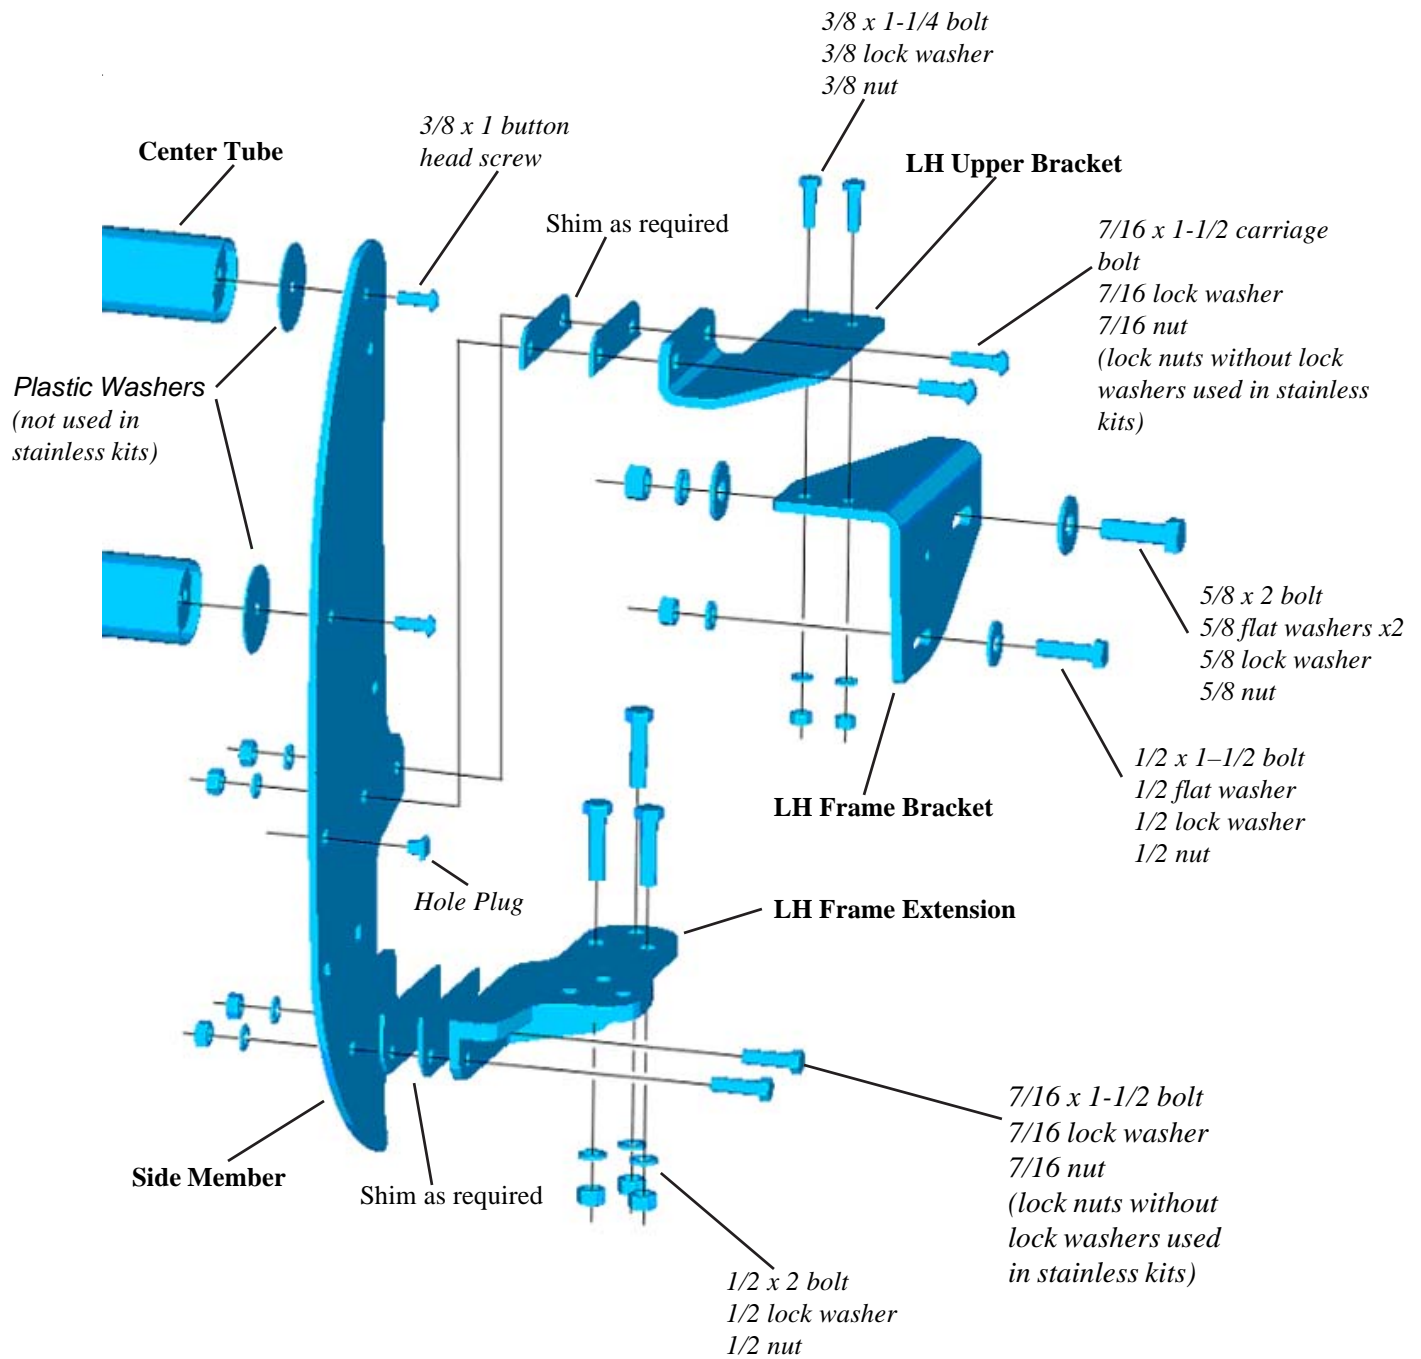
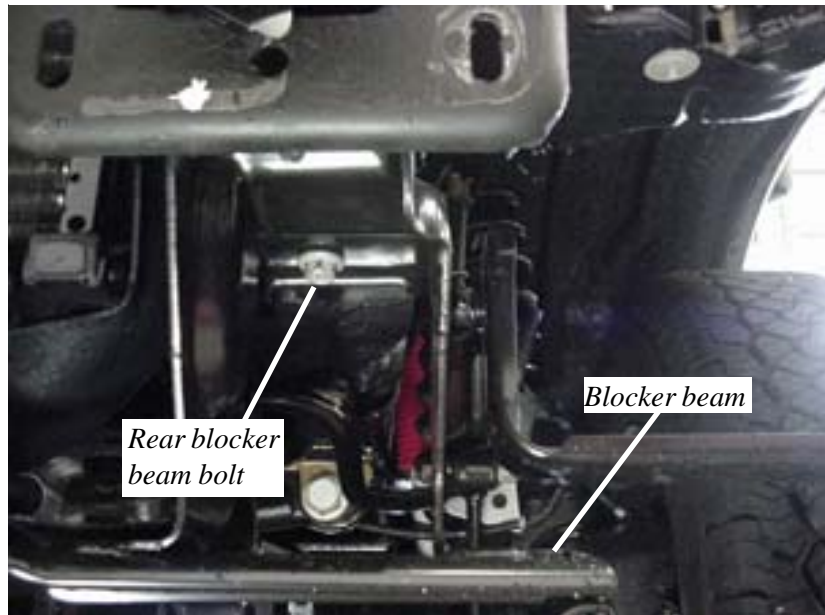

Figure 2 - Exploded view of kit
Figure 5 - Left blocker beam bolt beneath frame
- Refer to **Figure 2** to become familiar with the components and hardware in this kit.
5. Pre-assemble the Upper Brackets to the Frame Brackets. Refer to **Figure 2** for bracket identification. Use 3/8" bolts, lock washers and nuts. Tighten the hard
7. Install the Frame Extensions inside the frame using the original tow loop holes as attachment points. Use 1/2" hardware as shown in **Figure 2**. It may be necessary to loosen the rear blocker beam bracket/frame bolt and shift the blocker beam slightly to get the larger 1/2" bolts through the holes. Refer to **Figure 5**. Tighten the hardware.
9. Attach the Side Members. Refer to **Figure 2** for the correct hardware and location. Do not tighten yet.